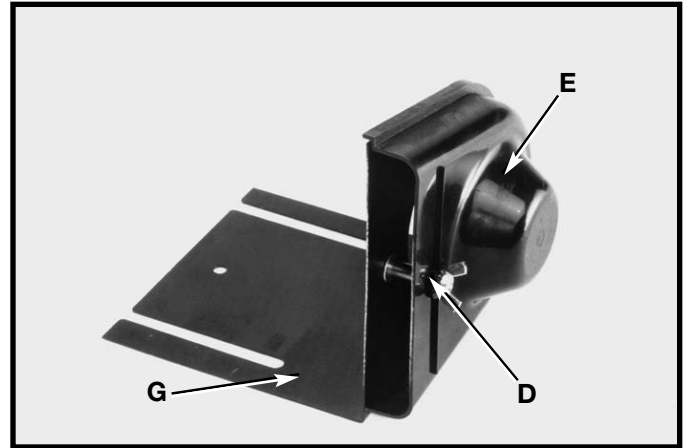

Fig. 16
3. Remove wing nut and external tooth lockwasher (D) Fig. 16, and outer cover (E) from belt and pulley guard (G).